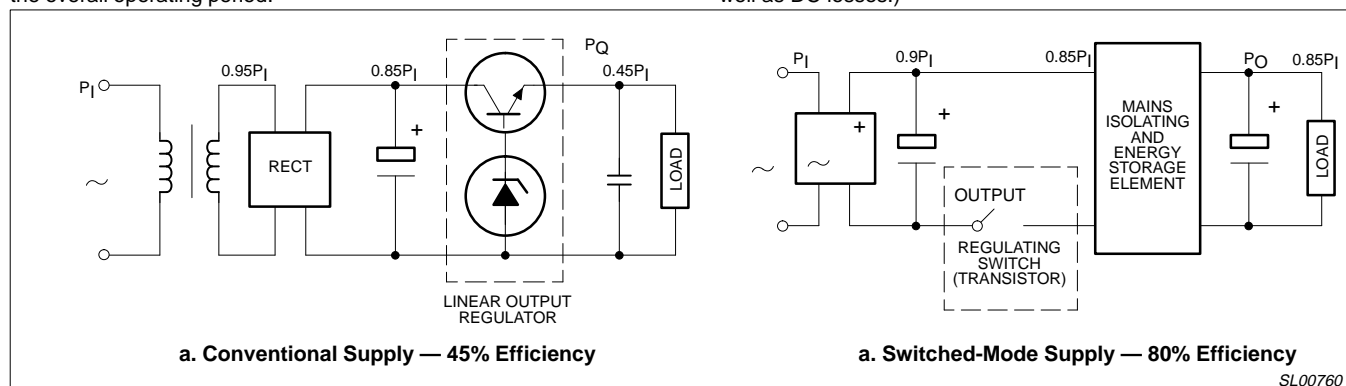

Figure 1. Losses in Regulated Power Supplies
- High efficiency because, for output regulation, the power transistor is switched rapidly between saturation and cut-off and therefore has little dissipation. This eases heatsink requirements, which contributes to weight and volume reduction. Conventional linear regulator supplies may have efficiencies as low as 50%, or less, but efficiencies of 80% are readily achievable with SMPS (see Figure 1).